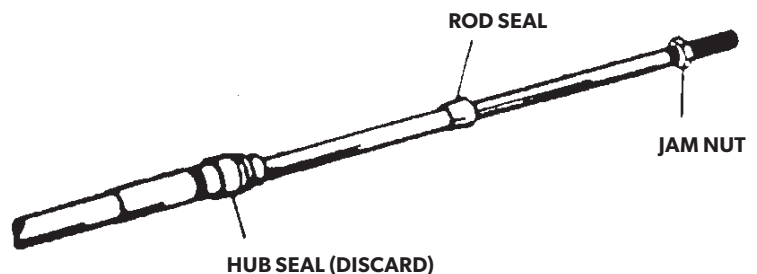

Figure 1.
1. Remove the jam nut and both seals from the engine end of the cable (see figure 1). Discard the hub seal only.